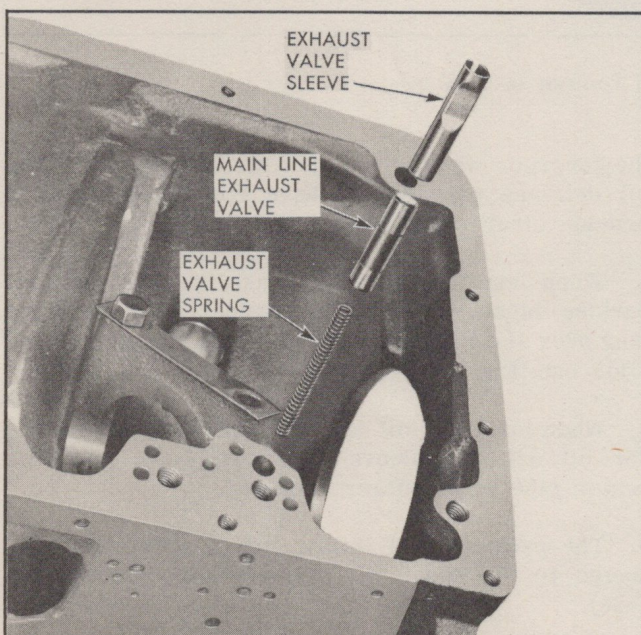

Fig. 38 Assembly of Main Line Exhaust Valve
2. Install the line exhaust valve sleeve by tapping in gently with a soft hammer. The relieved side of the sleeve should be toward the front servo to provide clearance for the front servo to case attaching bolt (see Fig. 38).